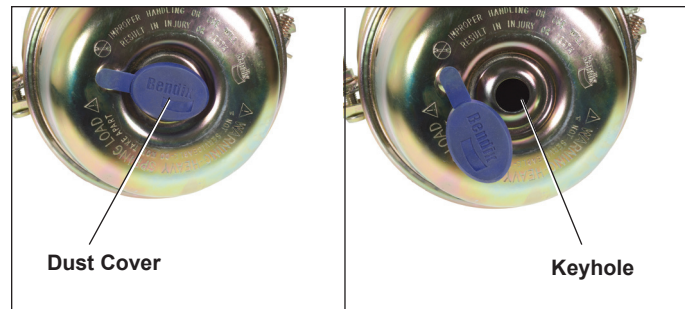

Figure 43 – Dust Cover Removal (Actual Dust Cover Design May Vary)
4.4.4 Remove the dust cap or weather seal from the keyhole in the center of the piggyback spring brake chamber (See *Figure 43*).